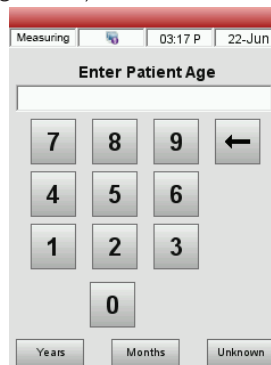

Figure 20. Measurement > Enter Patient Age screen
- Enter the patient's age (figure 20).